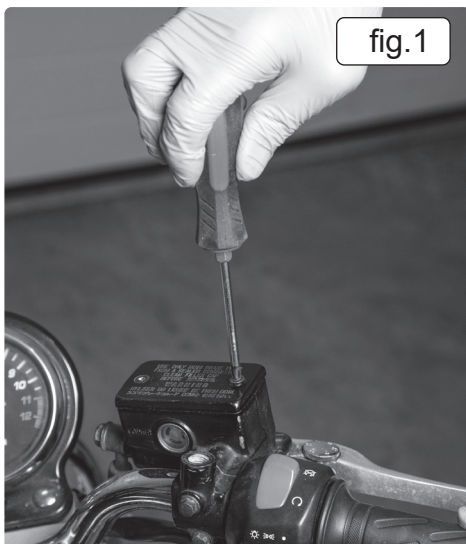

fig.1
- 4.1.1. Remove the lid of the vehicle's brake fluid reservoir. (See fig.1)